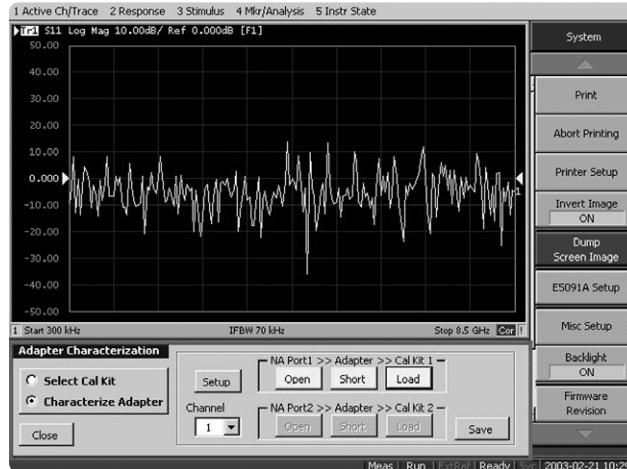
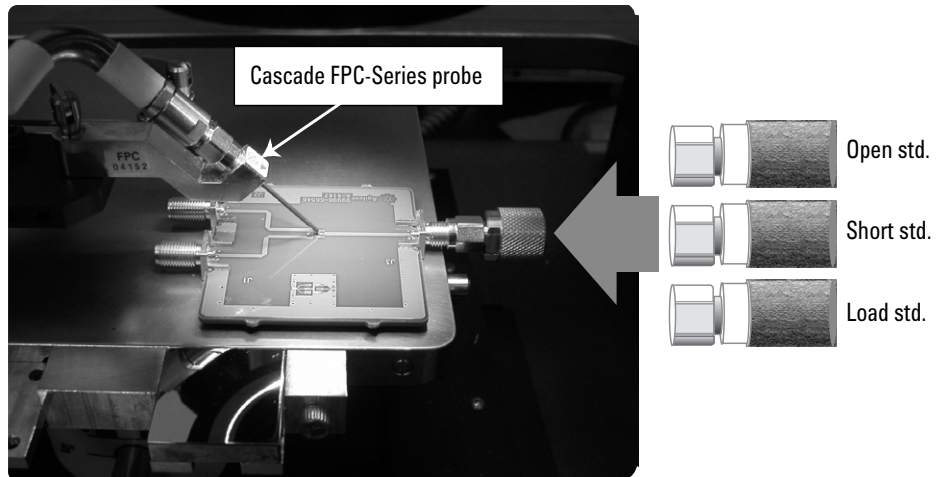

Figure 8. Adapter characterization program
Figure 9. Characterizing the test board using Cascade Microtech's FPC Series probe
Step 2: Run the adapter characterization program (figure 8), which is provided as a VBA macro. This is a very useful tool for fixture characterization. This software program calculates two-port S-parameters by using S_{11} measurement results with each of the three standards (open, short, and load) connected to the coaxial port of the test board, as shown in figure 9. Also, CalKit values of major coaxial calibration kits are registered in the instrument beforehand, so you do not need to enter CalKit values into the ENA Series.